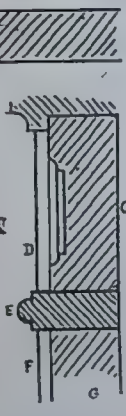

FIG. 5.—ALTERNATIVE SECTION.
necking will be returned at the ends. An alternative plan is to have a bottom front rail for the frieze (Fig. 5), with the moulding (E) run in the solid. If this method is adopted the two middle divisions will have to be notched back to take the rail. A neck moulding to correspond with solid mould of rail will be planted on the ends.